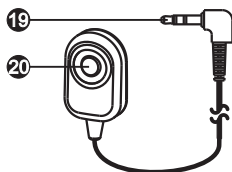

Fig. 16
7. External Mute Switch cable (optional), Fig. 16:
- ① External Mute Switch plug.
- ② External Mute button switch.